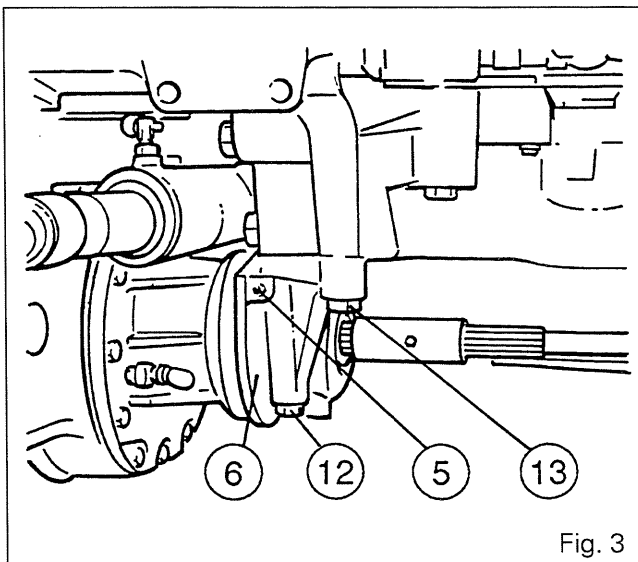

Fig. 3
7. Remove the bolts (12) and (13). Remove the front axle with the bearing (6) (Fig. 3).
8. Dismount the bearing from the front axle. Remove the washer (7) and the seal (8).